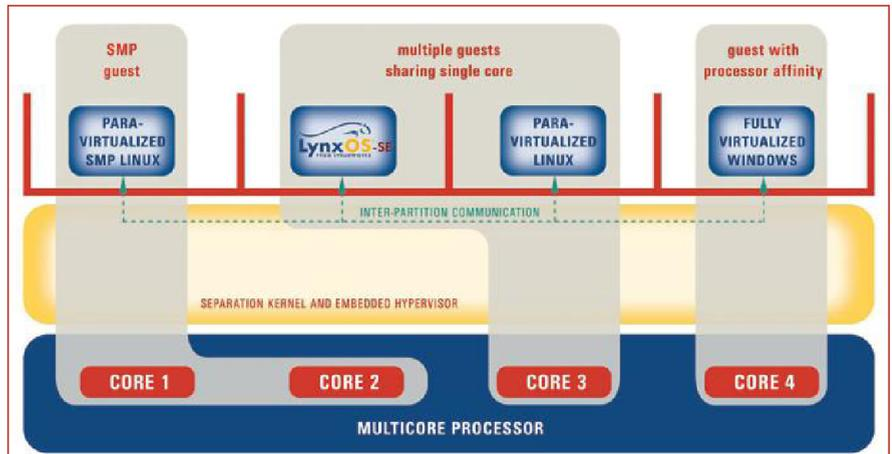

Figure 2 | A Type 1 hypervisor runs directly on the hardware and has complete control of the platform.
"Sensitive military electronic applications" might soon have a new life force to sustain them, according to a recent contract between the United States Air Force Research Laboratory (AFRL) and City Labs, Inc. The almost \$1 million contract specifies that City Labs incarnates long-life batteries for possible use in radar systems, UAVs or drones, computers, aircraft, and sensors (Figure 2). The City Labs battery, based on tritium, can withstand temps of  $-50^{\circ}\text{C}$  to  $+150^{\circ}\text{C}$ , along with extreme altitude and vibration. Used for illuminating Exit signs on commercial aircraft and in commercial buildings, theaters, and schools, tritium is a hydrogen-spawned radioactive isotope. Hence, batteries based on it are touted to last as long as 20 years.
**Figure 2** | Radar systems are one type of "sensitive military electronic application" set to benefit from a recent contract between the AFRL and City Labs, Inc. for long-life batteries.
But what if you could get even more control over how the OS runs on the multicore CPU? A new trend emerging in multicore environments is the use of a small hypervisor operating system, which abstracts the capabilities of hardware and allows multiple heterogeneous operating system instances to run on a single hardware platform. A Type 1 hypervisor, such as LynxSecure from LynuxWorks (Figure 2), runs directly on the hardware and has complete control of the platform, providing superior utilization of processor resources. In the SMP-enabled hypervisor, a single copy of the hypervisor can allow a single guest operating system to utilize multiple cores. The same hypervisor can enable AMP by allocating a single guest operating system to a unique core. This can be extended to allow AMP and SMP on the same platform through judicious allocation of guest operating systems on single or multiple cores, thereby increasing processor utilization significantly. ☒